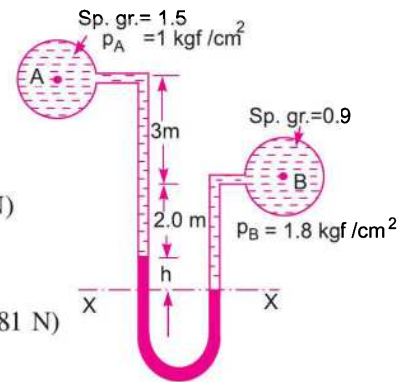

Fig. 2.19
**Problem 2.16** A differential manometer is connected at the two points A and B of two pipes as shown in Fig. 2.19. The pipe A contains a liquid of sp. gr. = 1.5 while pipe B contains a liquid of sp. gr. = 0.9. The pressures at A and B are 1 kgf/cm2 and 1.80 kgf/cm2 respectively. Find the difference in mercury level in the differential manometer.